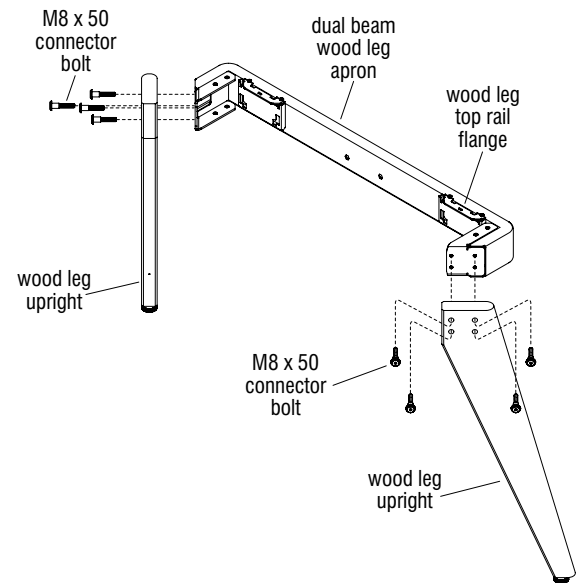

Figure 5 - Dual-Sided Wood Leg Benching Legs & Beam Assembly
1. Carefully unpack StyleLinks components, review the space-planning layout and study Figures 5, 6, 7 & 8 to identify parts to assemble. Position all legs and beams onto the floor per the space-planning layout (Figures 5, 6, 7 & 8).
1. Correctly position the dual beam wood leg apron and wood leg uprights as illustrated in figure 5.
2. Locate the dual-sided wood leg benching end leg hardware parts bag which contains eight M8 x 50 connector bolts. Align the holes of the wood leg uprights with the holes on the wood leg apron. Insert four M8 x 50 connector bolts with inserts through the leg and correctly positioned apron (Figure 5).